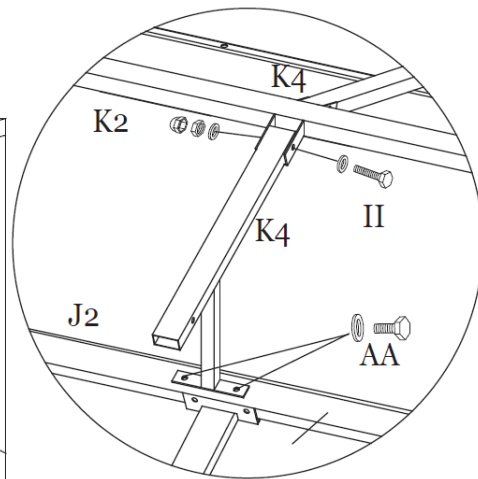

Figure 9-2
Step 9B: Attach Roof Vent Side Supports (K4) to Roof Vent Center Support (K2) using Bolts (II). Attach Roof Vent Side Supports (K4) to Main Roof Center Frame (J2) using Bolts (AA). Repeat for opposite side. **Tighten all Bolts.** See Figure 9-2.